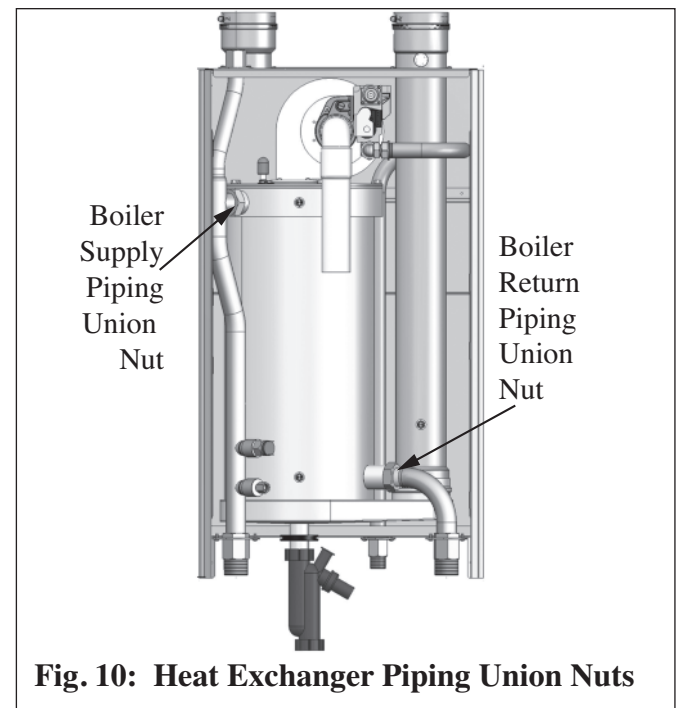

Fig. 10: Heat Exchanger Piping Union Nuts
1. Connect boiler supply piping back to supply connection of new heat exchanger. Use a new boiler piping gasket provided in the kit between heat exchanger and supply pipe. Tighten the brass union nut ensuring a leak tight seal. (Fig. 10). Reinstall piping support flange (if present).
2. Connect boiler return piping back to return connection of new heat exchanger. Use a new boiler piping gasket provided in the kit between heat exchanger and return pipe. Tighten the brass union nut ensuring a leak tight seal. (Fig. 10).